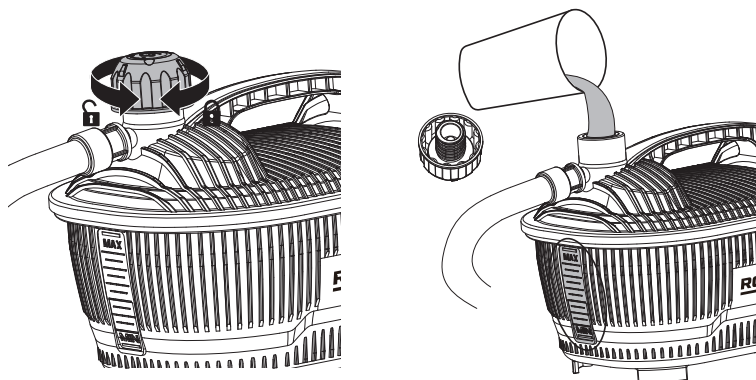

Figure 3
3. FILLING OR TOPPING UP WITH WATER (SEE FIG. 3)